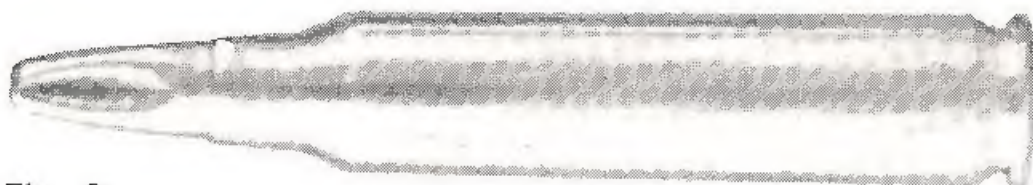

Fig. 6
B. Blank Star cartridge (fig. 6)